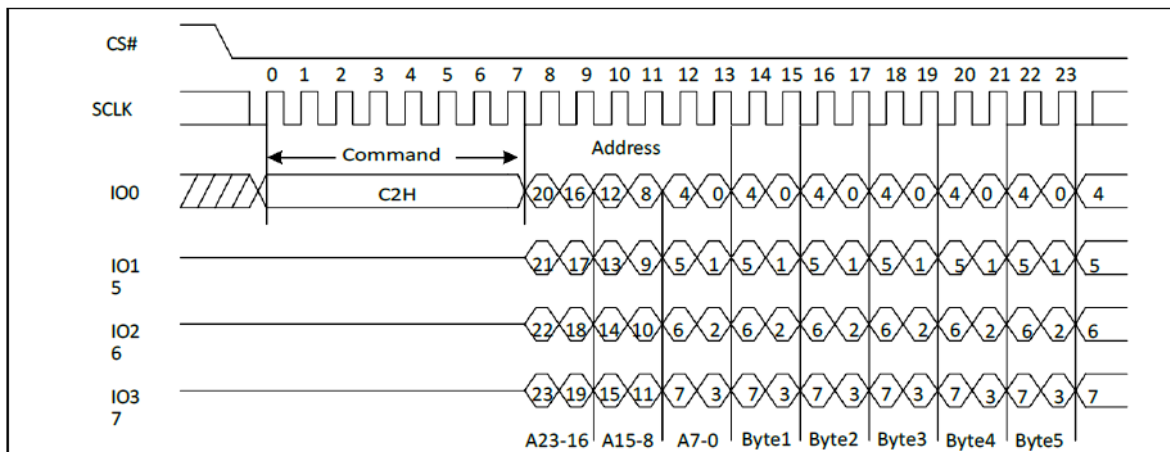

Figure 28 Extend Quad Page Program Sequence Diagram (SPI)
The Extend Quad Page Program with 4-Byte Address instruction(3EH) is similar to the Extend Quad Page Program instruction(C2h) except that it requires 32-bit address instead of 24-bit address. The Extend Quad Page Program with 4-Byte Address can improve performance for PROM Programmer and applications that have slow clock speeds <5MHz. Systems with faster clock speed will not realize much benefit for the Quad Page Program with 4-Byte Address instruction since the inherent page program time is much greater than the time it take to clock-in the data. To use Quad Page Program with 4-Byte Address the Quad Enable (QE) bit must be set to 1. The Quad Page Program with 4-Byte Address instruction sequence is shown in Figure 28.